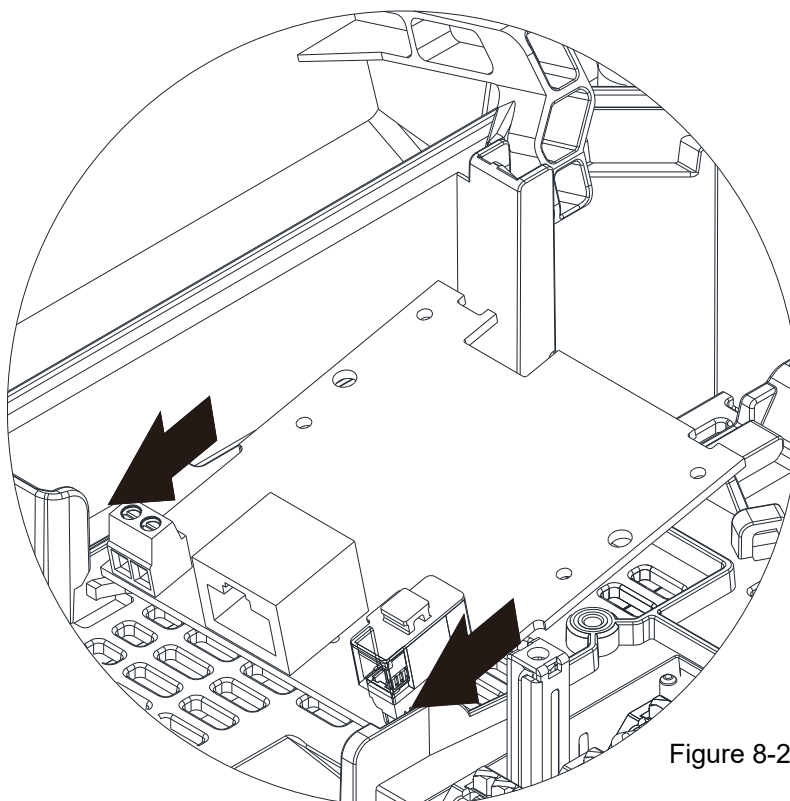

Figure 8-2
3. As shown in Figure 8-2, engage the lower end of the option card with the guiding slot.